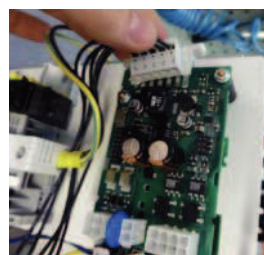

Fig. 4.a
- Disconnect the Lumberg (see Fig. 4.a) connector on the control board;
- Plug the Lumberg connector (see Fig. 4.a) onto the board, making sure it is inserted in the correct direction;
If the humidifier is disabled (contact ON-OFF open, see Fig. 4.d), the display shows "—" alternatively to the main screen (LED signal: Standby).